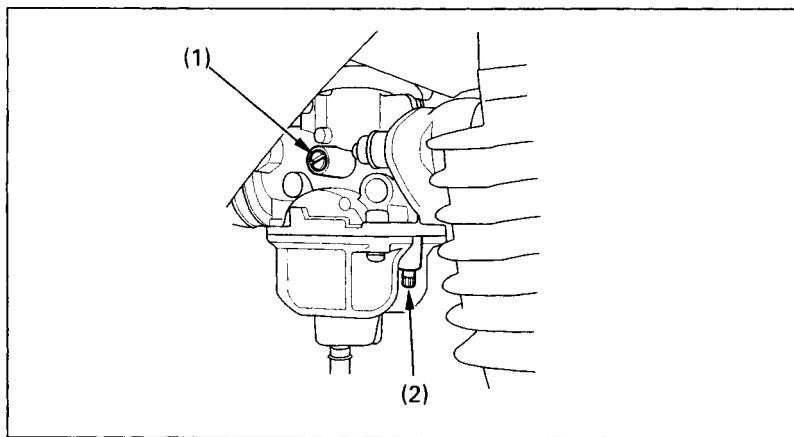

Fig. 4-9 (1) Throttle stop screw
2. Adjust idle speed by turning the throttle stop screw (Fig. 4-9).